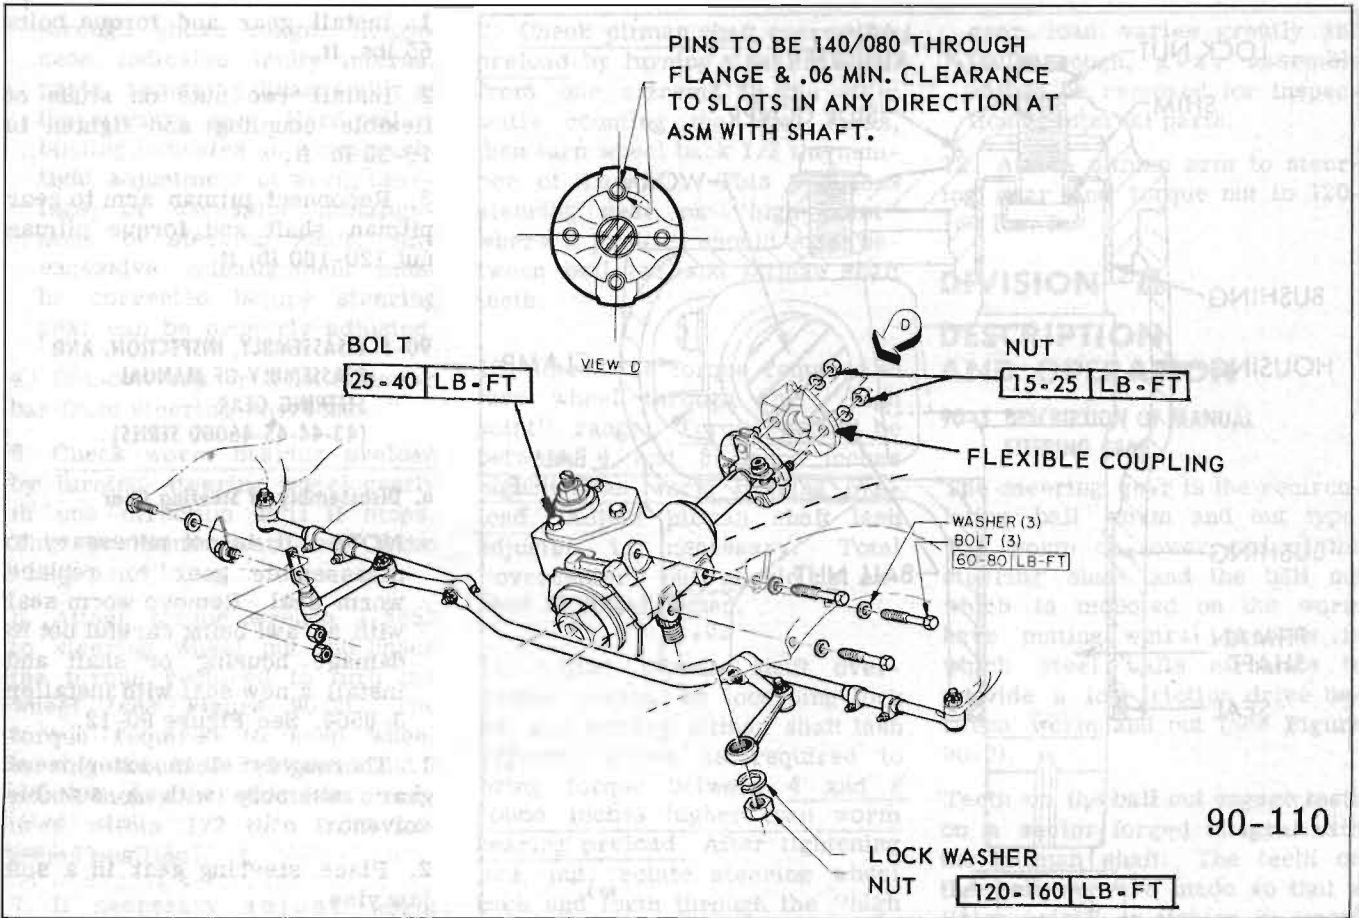

Figure 90-5—Manual Steering Gear Installation (All Series)
3. Remove three steering gear to frame bolts and remove gear assembly. See Figure 90-5.